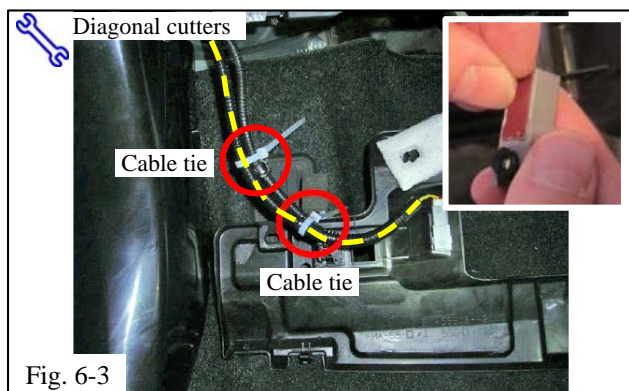

Fig. 6-3
- Position the LED module onto the panel (Fig. 6-3).
- Remove the backing from the adhesive strip (Fig. 6-3 inset)
- Secure the interior light harness to the OE harness near the connector with one (1) cable tie (Fig. 6-3).
- (n) Secure the wire harness with one (1) cable tie (Fig. 6-3).
- (q) Fasten the two (2) screws in front.